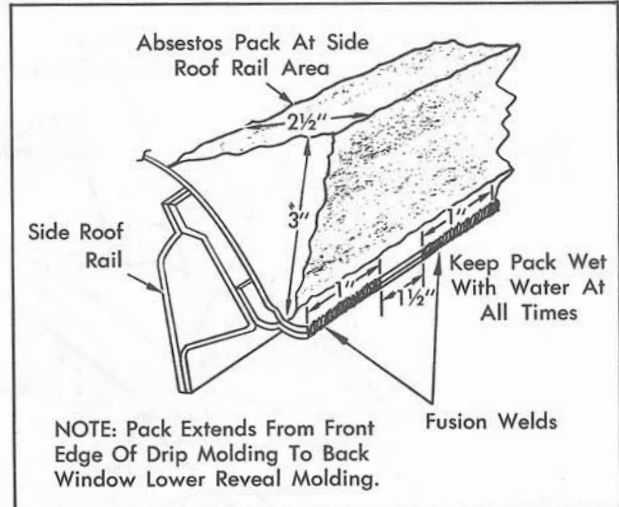

Fig. 17-74 Installation of Roof Panel to Side Roof Rail Extension
4. Align the new roof panel to the side roof rail extensions so that the edges are flush from front to rear, and clamp it in position. Obtain powdered asbestos, wet it with water and pack the roof panel at the side roof rail areas. Use cold water as a coolant with the powdered asbestos to avoid heat distortion. For thickness and position of packs, refer to Fig. 17-74. Before starting the welding operation, re-check all body alignments to insure proper fit of the windshield, back glass, and doors. Using standard oxyacetylene welding equipment, tack weld the roof panel to the side roof rail extensions at 6" intervals from front to rear. The application of a fusion weld in this area has been found to produce the most satisfactory results.